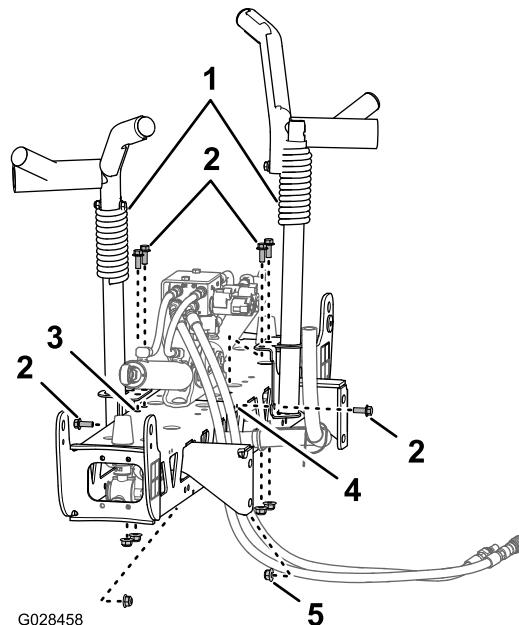
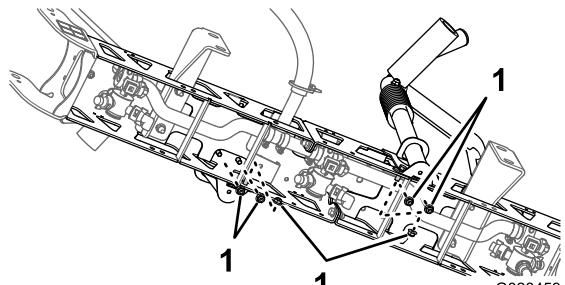

Figure 27
Figure 28
3. Assemble the cradles to the boom section (Figure 27 and Figure 28) with 6 bolts (3/8 x 1 inch) and 6 flanged locknuts (3/8 inch).
2. Align the boom transport cradles to the center boom section (Figure 27).